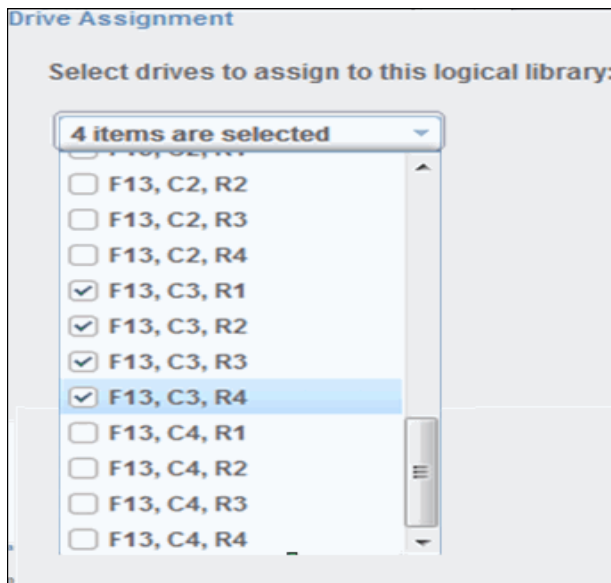

Figure 5-43 Custom drive settings
3. Use the Drive Assignment page to configure drives for the logical library, as shown in Figure 5-43. You can select all unassigned drives or select only the drives that you need.